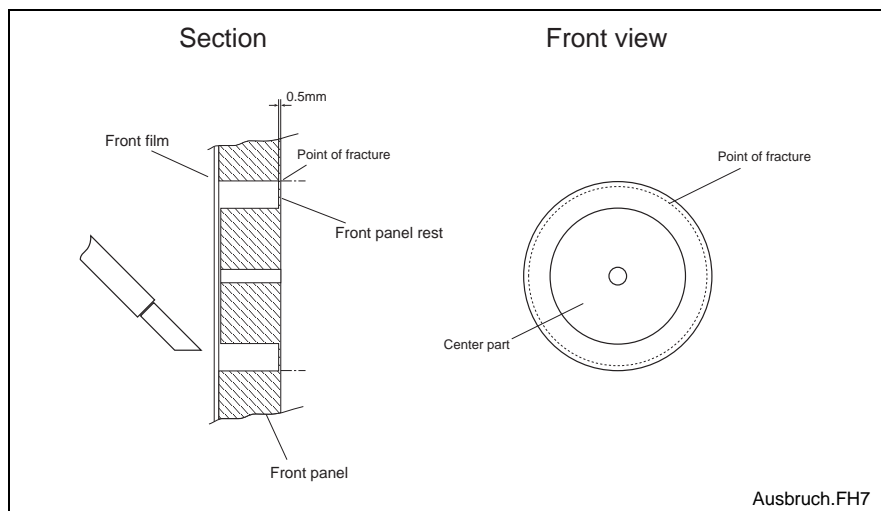

Fig. 4-3: Front panel cross section
3. Use a knife (scalpel) to cut the front film in the shape of the pre-milled knockout contour (see Fig. 4-3)